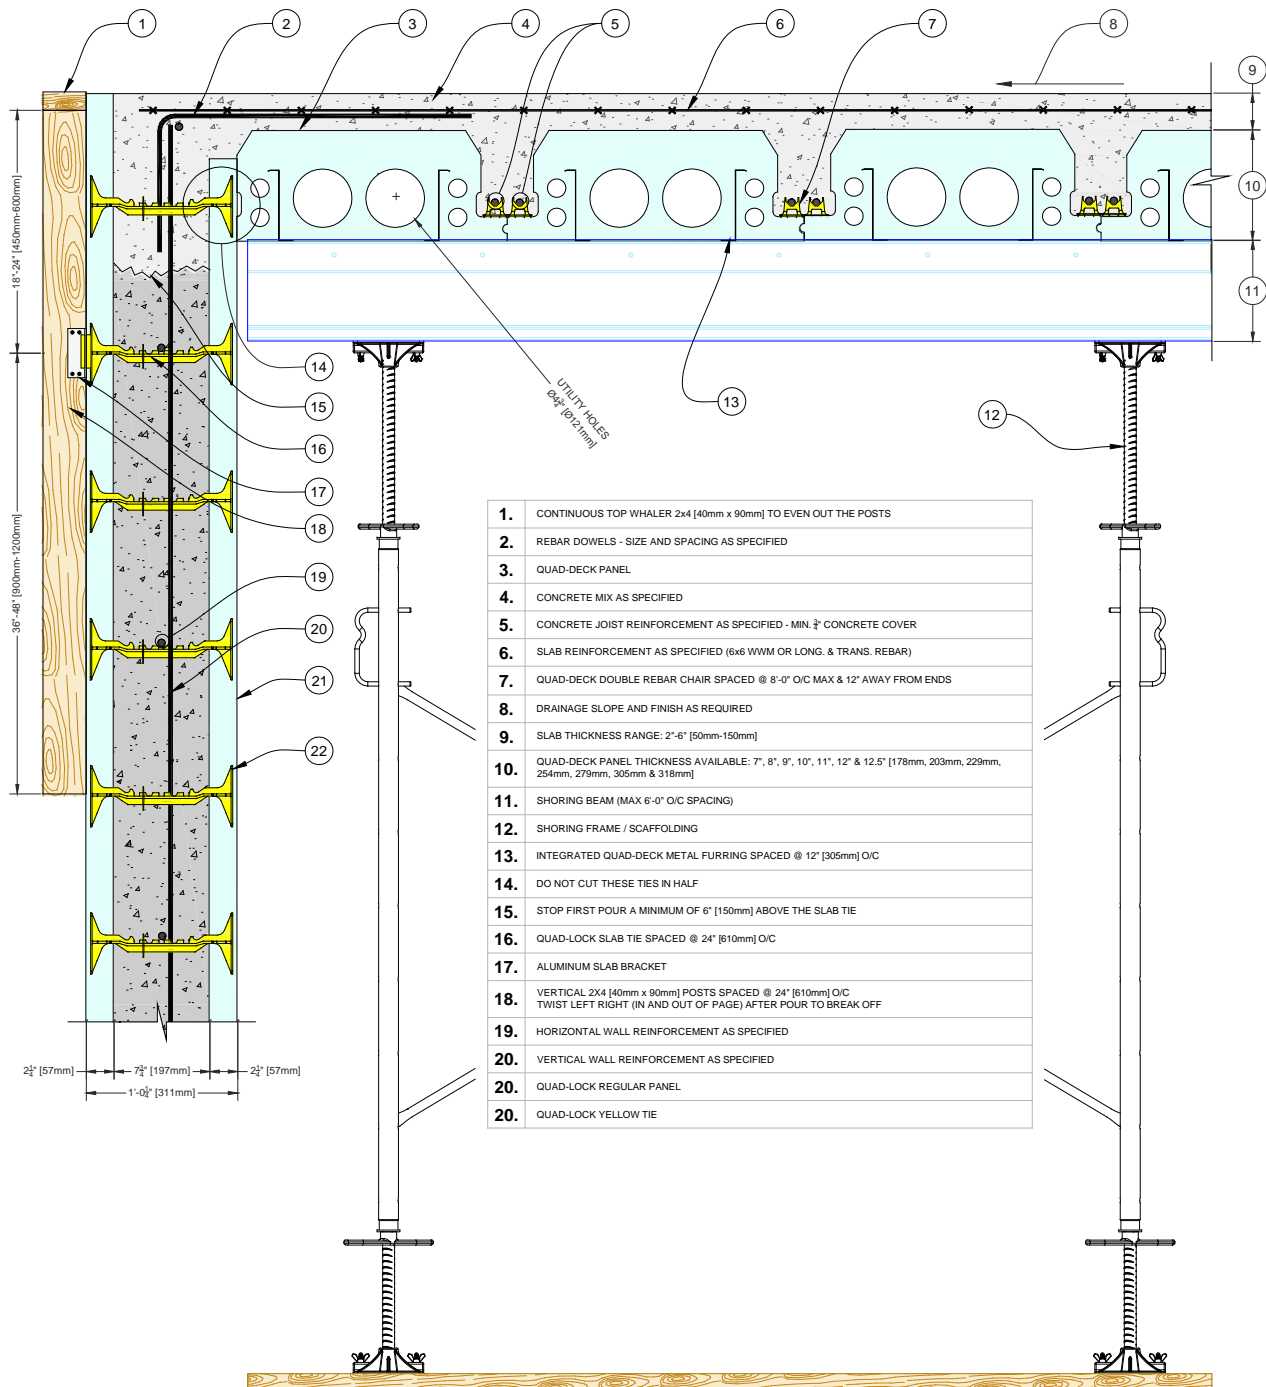

Figure 116: Quad-Deck Concrete Floor Construction Details
Building science experts have identified un-insulated wall-to-floor connections as a major source of heat loss and gain in buildings. Quad-Lock Panels may be used as the “edge form” to both form and insulate around the perimeter of the slab where it intersects the exterior walls. This can occur at a flat-roof to wall connection, a parapet wall to roof connection, or an intermediate floor to wall connection (Figure 116).
3. Brace with 2x4s attached to the Slab Ties with Quad-Lock Slab Brackets (Figure 116). Vertical braces should extend upward to the top-of-slab level, and downward at least 3 ft. [1m] below the bracket connection.